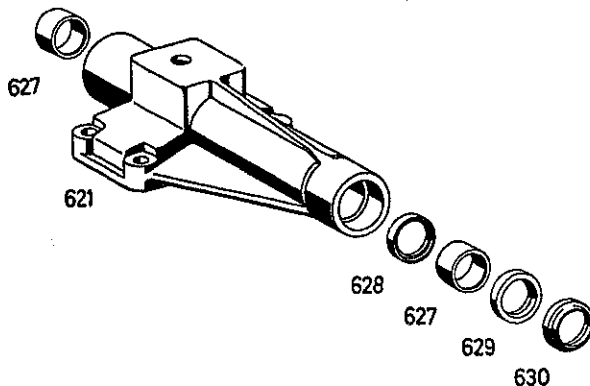

Fig. 59
Insert shaft sealing ring (629) with sealing lip inwards and wiper (630) with sealing lip outwards (Fig. 59). Fill cavities between bearing bushing (627) and the two shaft sealing rings (628 and 629) with hot bearing grease. Introduce gear shifting shaft (631) while sliding-on locking clamp (622) and shift finger (623). Force set pins (620 and 619) into bores of finger and shaft.